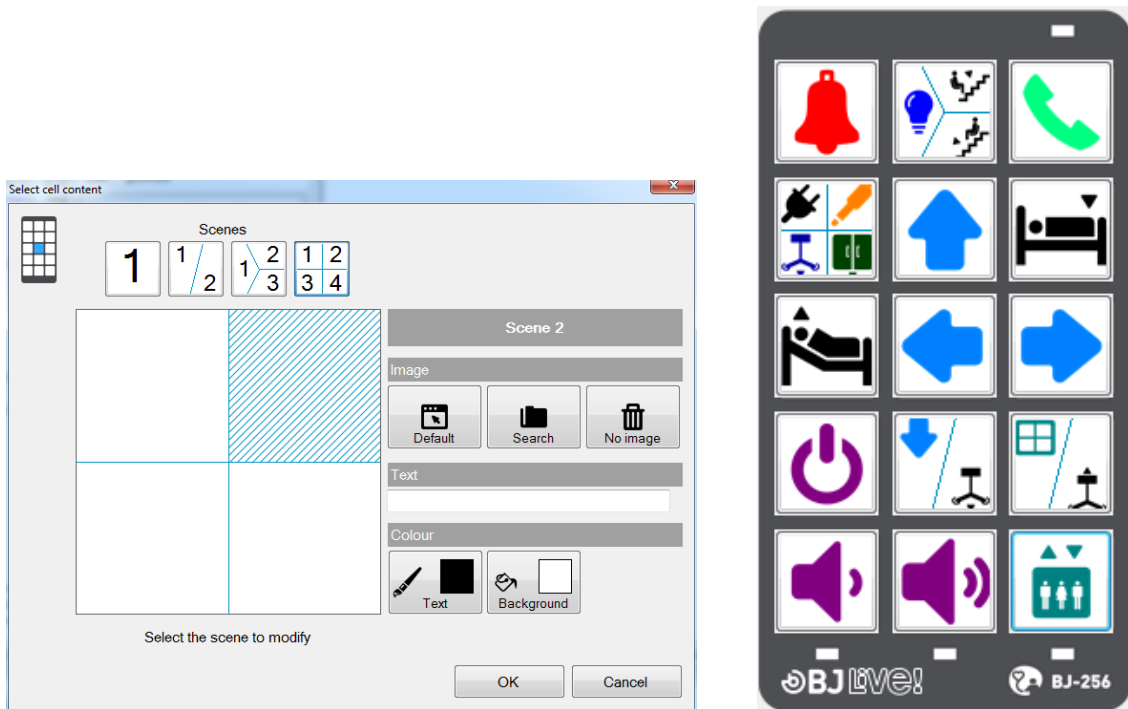

Figure 2. Cells on the BJ-256 remote control
1.	Check that the battery is charged. To do this, check that the LED indicating the battery status (see Figure 2) is not flashing . If the battery status LED is flashing red, you need to charge the battery by connecting the charger supplied with the remote control to a USB port on a computer. When the battery LED turns green, this means that the battery is charged and you can continue to step 2 after you have disconnected the charger.
2.	Follow the instructions in section 3 of this manual to programme the key on the remote that you want to use (e.g. key 5).
1. Check that the battery is charged. To do this, check that the LED indicating the battery status (see Figure 2) is **not flashing**.